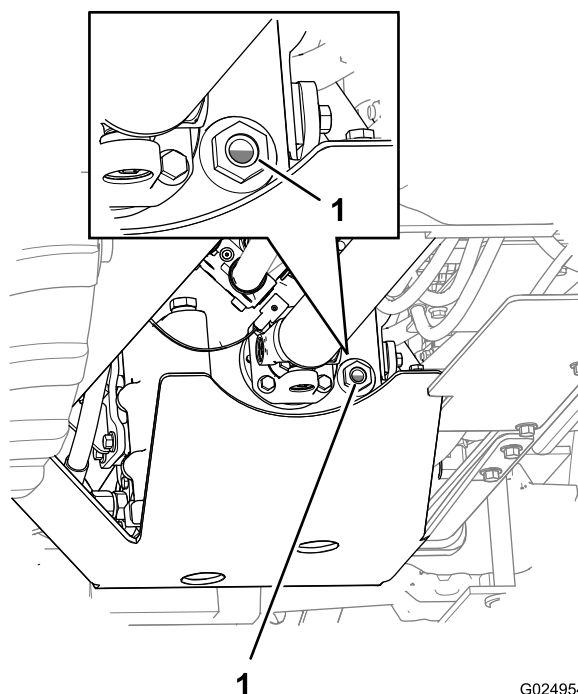
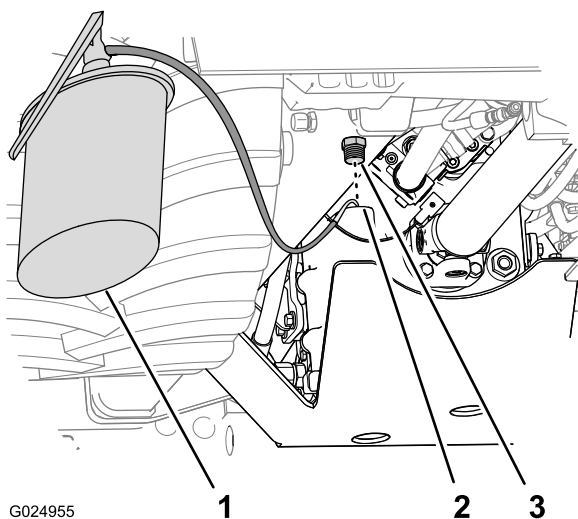

Figure 2
Figure 3
5. Wait 10 minutes or more and then check the transmission oil level in the sight gauge (Figure 2).
- A. Remove the fill plug from the fill port of the transmission (Figure 3).
- D. Fill the transmission with the specified oil through the fill port until the oil level covers $\frac{1}{2}$ to $\frac{3}{4}$ of the sight-gauge window (Figure 2 and Figure 3).
- E. Install the fill plug into the fill port securely (Figure 3).
9. Wait 10 minutes and then check the transmission oil level in the sight gauge (Figure 2).